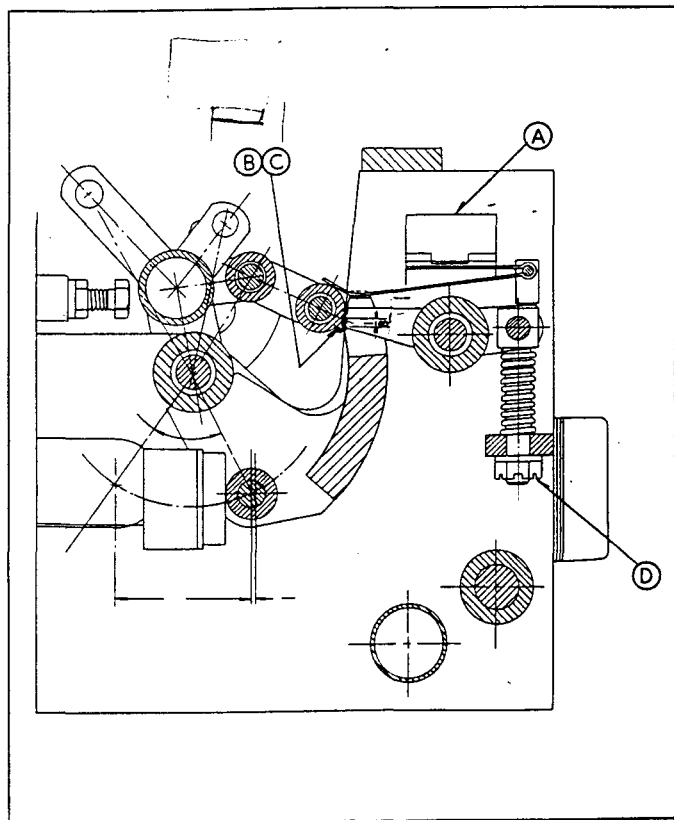

FIGURE 25
10. Solenoid cut-off switch should operate only after prop snaps into position shown (breaker is closed). Fig. 25-A.
11. Tangent point of roller on surface to be 1/8" approximately from lower corner of surface. Fig. 25-B.
12. Adjust roller to closing-lever by moving latch-assembly. Fig. 25-C.
13. Nut to adjust prop to roller. Fig. 25-D.